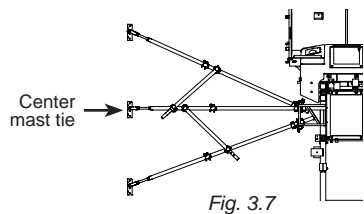

Fig. 3.7
- 3- Attach the center wall tie bracket to the structure in the appropriate position (fig. 3.7), taking into account that the perpendicular mast tie must be installed on the tube inside the mast tie frame that is closest to the transport platform.